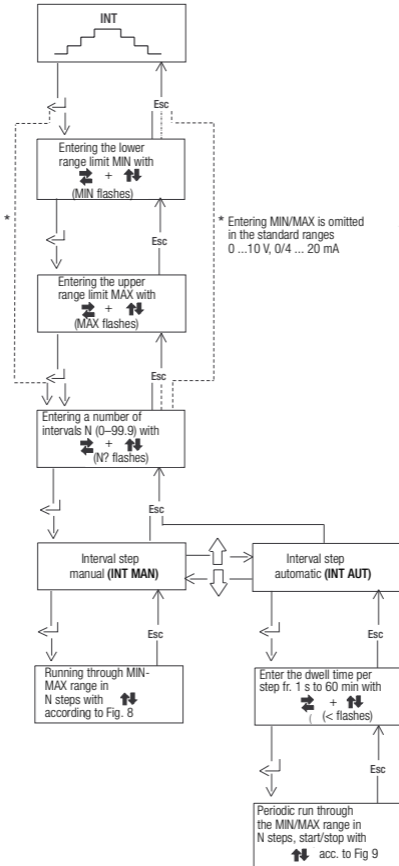

Figure 7 General Operator Control Structure in the Output Method 'Intervals' (INT)
The MIN/MAX limits in Figure 5 have been entered to cover the whole range from  $-200$  to  $+1200$  °C. The range divisions into 3.2 intervals for connection of an item under test with a scale of  $0 \dots 6.4$  bar, corresponding to a range of  $4 \dots 20$  mA with fixed range limits, is shown in Figure 6. Figure 7 shows the general menu struct. starting with the menu pos. in accordance with Figure 4 in which the output method 'Intervals' (INT) is ready for a selection.
The steps can be triggered with the keys  $\uparrow$  (3) and  $\downarrow$  (4) after all parameters in accordance with the menu structure in Figure 7 for the output method INT, MAN have been entered.